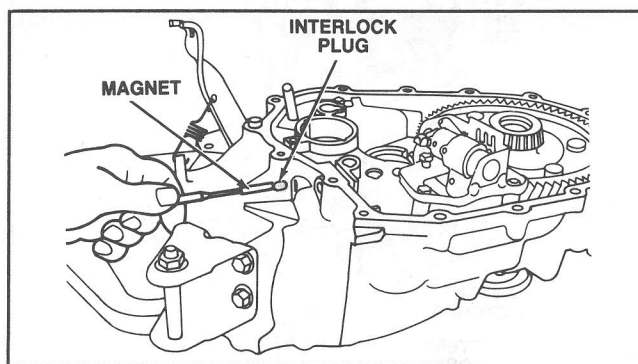

Figure 119 Interlock Plug Installation
11. Install the remaining detent plug. (Figure 119).